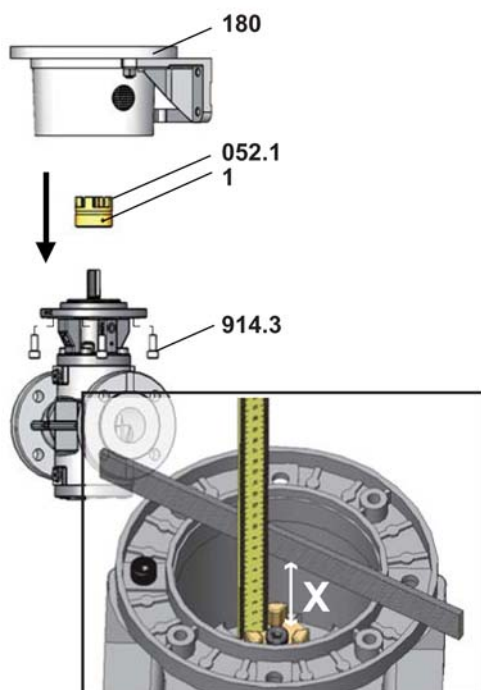

Fig. 4
4. Measure and write down the distance **X** between the face of the coupling and the connecting surface of the pump bracket, see Fig. 4.